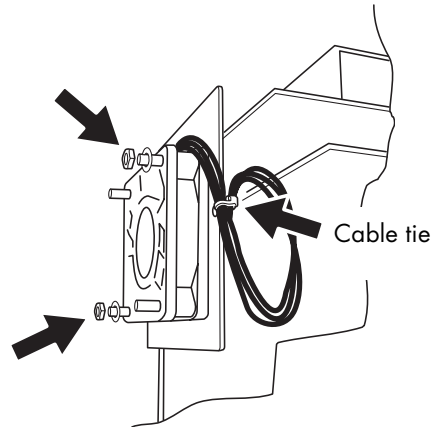
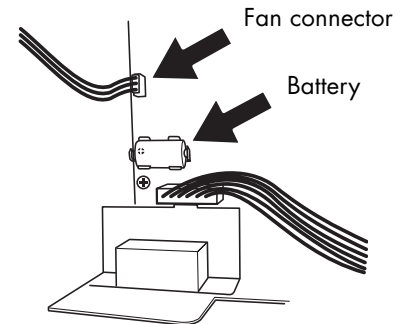

Figure 11.1d Fan replacement details
Figure 11.1e Battery and fan connector
This reveals the internal structure of the instrument. Figure 11.1d shows the locations of the fan (A) and the battery (B). Figures 11.1d and 11.1e show details.
1. Disconnect the fan connector, located as shown in figure 11.1e, above.
8. Coil the harness neatly, and mate the fan connector (located as shown in figure 11.1e). Secure the harness coil to the chassis, using a cable-tie (figure 11.1d), ensuring that the harness is not strained.